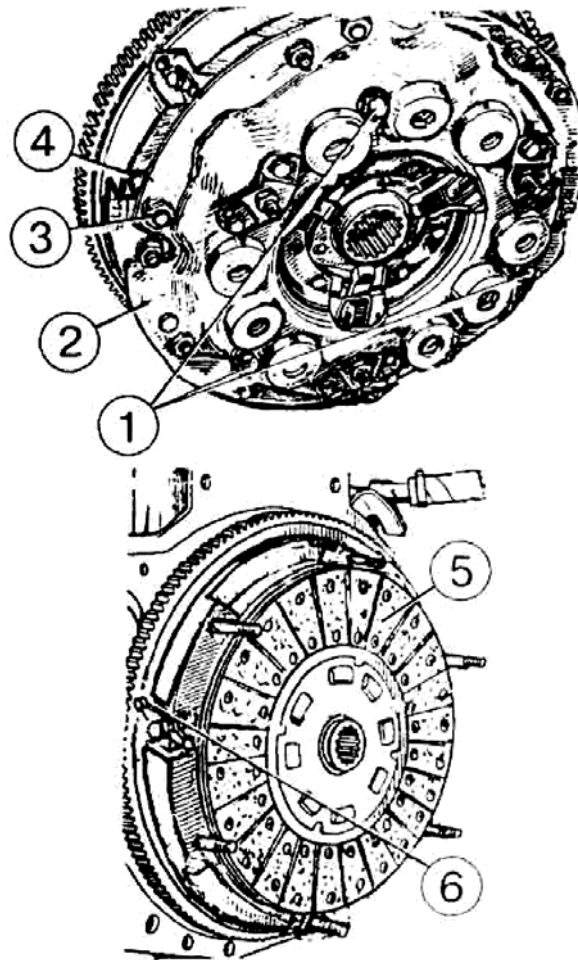

Figure 4.13
- via technological openings of supporting disk 2 screw inside squeeze disk (Figure 4.13) three bolts 1 (M12x40) to squeeze springs;